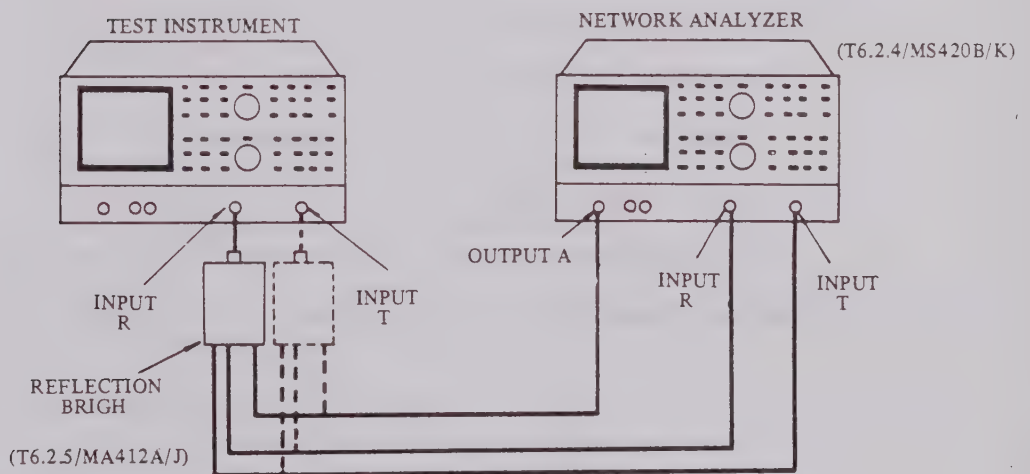

Fig. 6-5 Return Loss Measurement
- (1) Interconnect the TEST INSTRUMENT, the REFLECTION BRIDGE and the NETWORK ANALYZER as shown in Fig. 6-5.
- (2) Connect the TEST connector of the REFLECTION BRIDGE to the STD 0 Ω termination.
- (3) Set the frequency range of the REFLECTION BRIDGE to 10 Hz to 100 kHz.
- (4) Set the NETWORK ANALYZER as follows:
- (5) Set the sweep time so that the uncal lamp does not light.